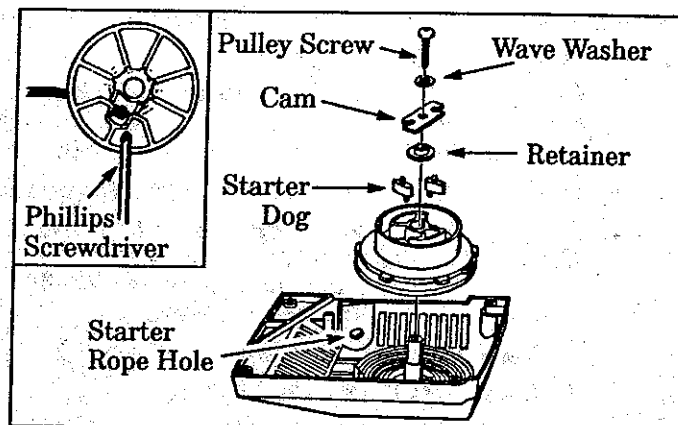

Figure 39
5. Remove the pulley screw in the center of the pulley. Be sure to note the position of the cam when removing it from the pulley. Figure 39.
7. Remove the rope retainer screw and remove the old rope. Figure 39.
11. Feed the rope through the round starter rope hole in the fan housing. Figure 39.
12. Guide the rope inside the pulley, then up through the pulley hole (on the pulley ratchet side). Figure 39. It might be necessary to insert a small screwdriver through the underside hole to push the rope through the pulley hole. Figure 39 (inset).
16. Replace and tighten the pulley screw. Make sure the starter dog, retainer, cam, and wave washer are positioned and installed properly. Figure 39.
NOTE: Make sure the cam is installed on the starter dog in the direction shown in Figure 39. Also, make sure the wave washer is seated around the top outer edge of the retainer and not caught between the top of the retainer and the pulley screw.